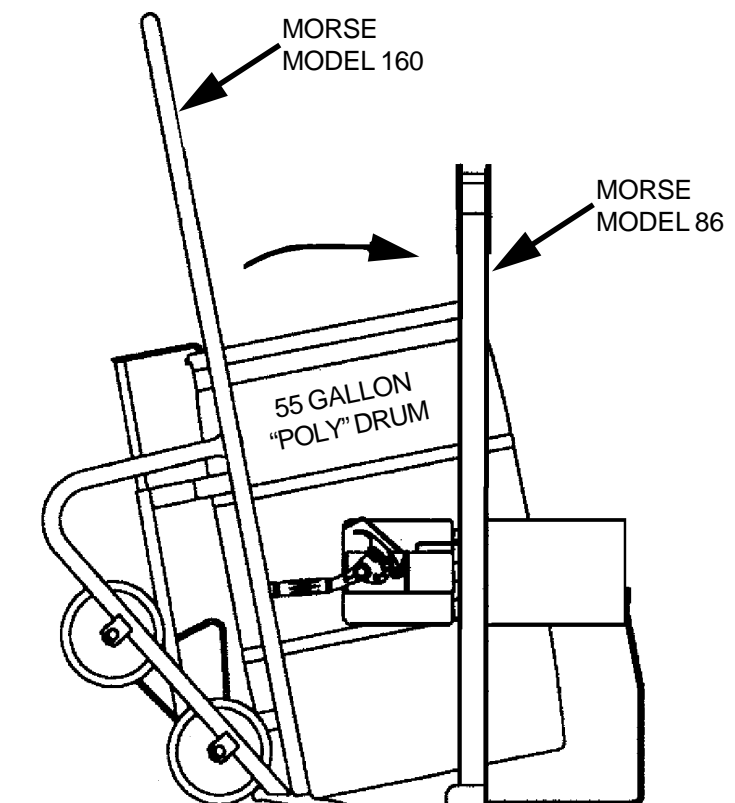

Figure 1
4. Using a drum hand truck (ie. Morse Model 160), carefully place the drum onto the base of the 86 so that the drum rests into the saddle band (see Figure 1).
5. Drape the cinch chain (item 4) across the face of the drum and engage a link into the slot on the ratchet and tighten the cinch chain around the drum by turning the ratchet handle (item 14) clockwise.
7. To remove drum from the 86, release tension in the cinch chain (item 4) by turning ratchet handle (item 14) clockwise to relieve the force on the pawl (item 10), and lifting the pawl away from the ratchet. Once the cinch chain is slack, remove the link from the slot in the ratchet. Remove the drum from the 86 using a drum truck.